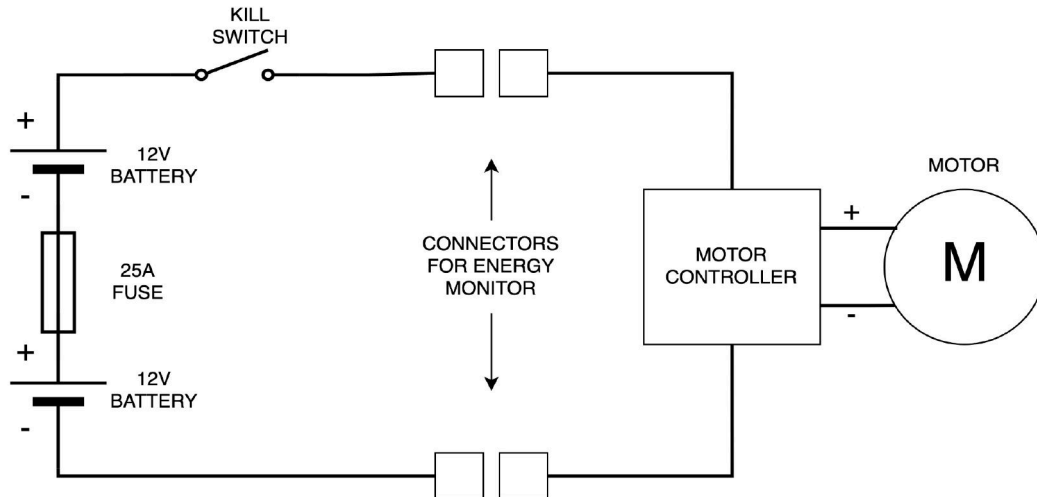

Figure 5: Wiring diagram for the Standard Class kits (not showing signal wiring).
- CR.2.4 The wiring diagram for the Standard Class kits is shown in Figure 5. The connectors for the energy monitor may have positive and negative leads in the same connector; they are shown separately in the diagram for simplicity.